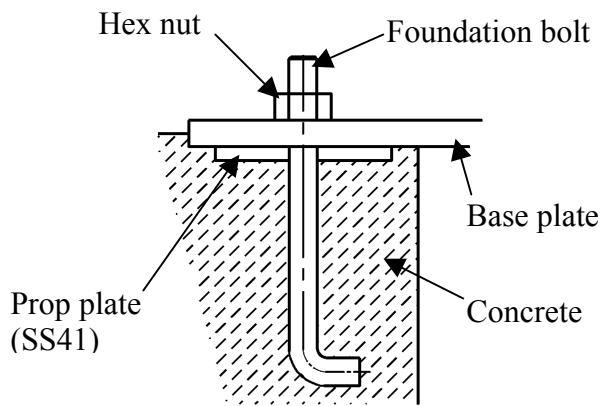
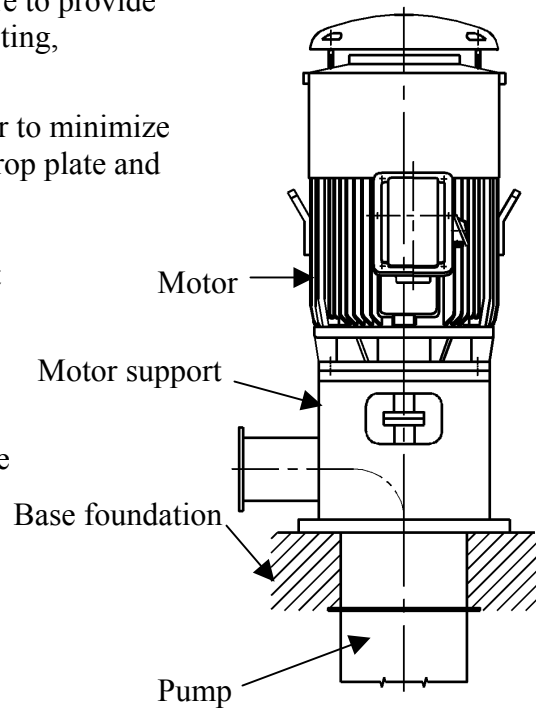

Fig. 4
Fig. 5
- (b) A massive concrete foundation is preferred in order to minimize vibration. Rigidity and stability are enhanced by prop plate and foundation bolt. As shown in Fig.4 and Fig.5.